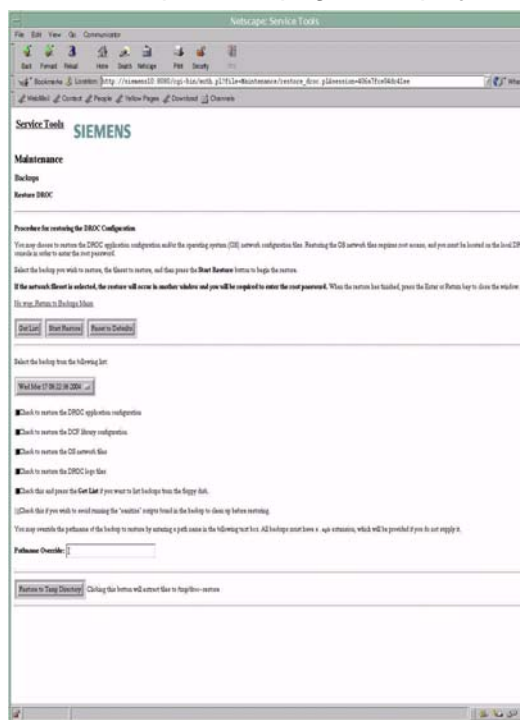

Fig. 11 Restore Tool
3. Insert the floppy that contains the backup file(s), select the appropriate options, see Fig. 11 and click on **GetList** to retrieve all available backups on the floppy.